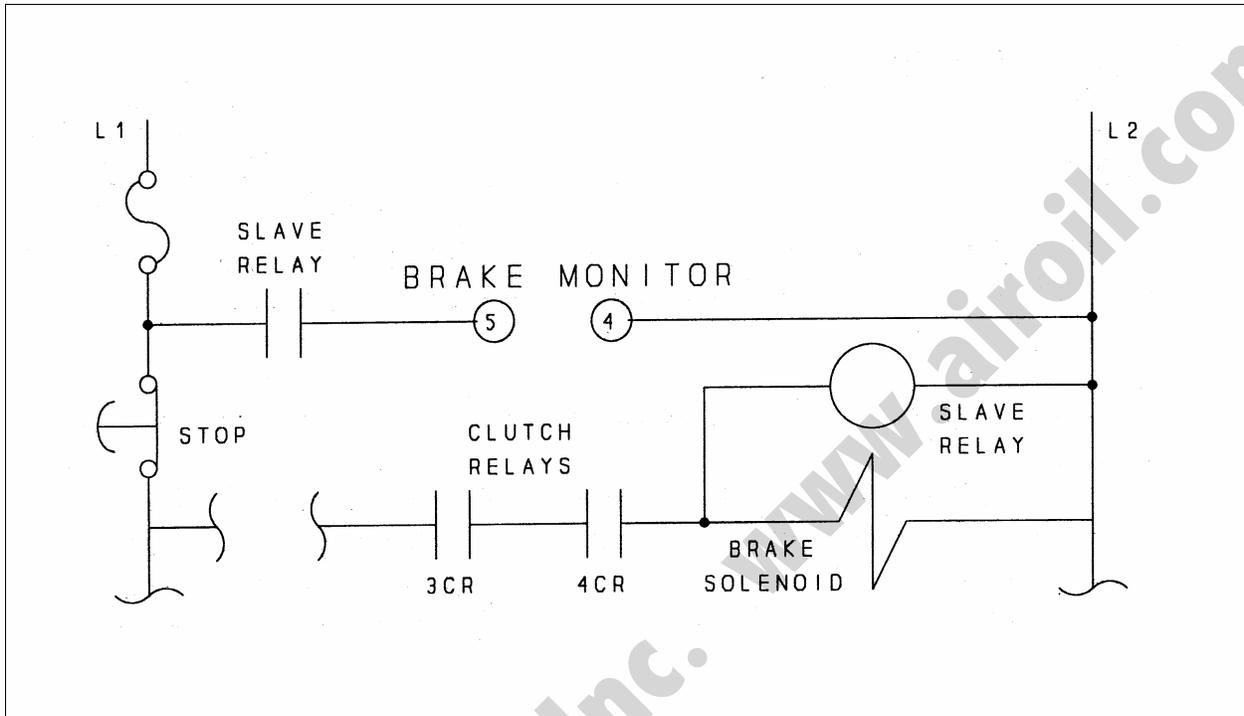

Figure 7. Slave Relay Wiring
4. If step 4 above does not correct the problem, or if the press does not use run relays in inch mode, a slave relay must be installed in the press control in accordance with Figure 7 below.